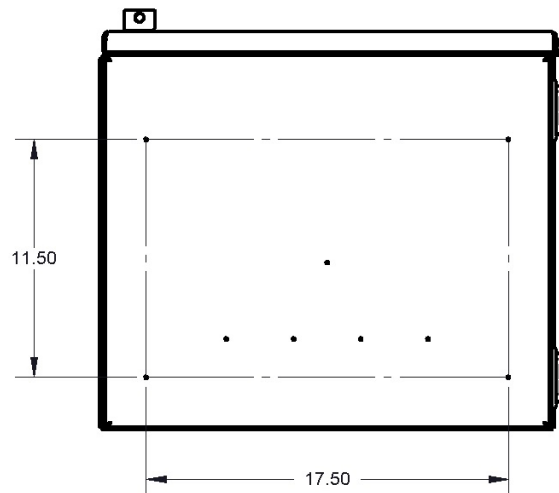

Figure 8 — Enclosure/Plinth Mounting Hole Locations
6. Secure the enclosure to the plinth with the supplied 1/4" hardware. Torque bolts to 65in-lb (7N-m). See Figure 8.